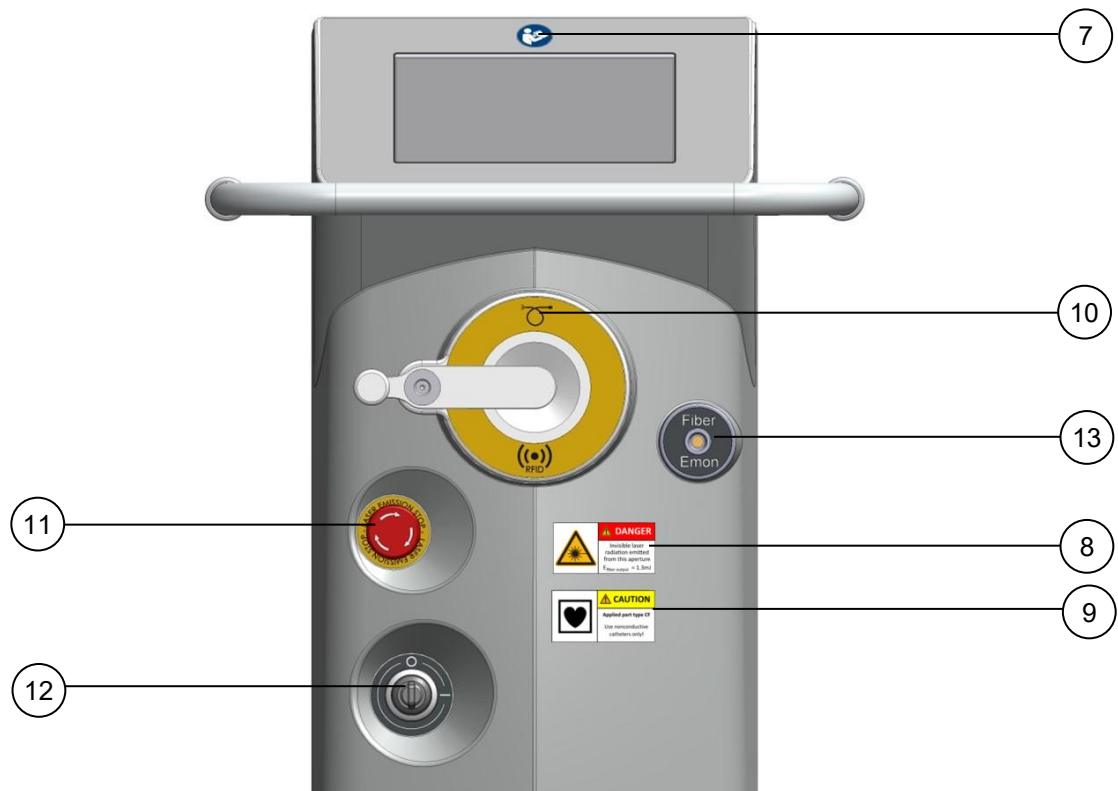

Fig. 2-2: Frontside view
7.	Follow instructions for use. The label is located on the front side of the laser above the touch panel (see Fig. 2-2).
8.	The laser warning identification sign warns about the emission of laser radiation at this position. The label is located on the front side of the laser close to the laser beam aperture (see Fig. 2-2).
9.	Defibrillation-proof type CF applied part Only fibers of type CF are allowed to be attached. Only nonconductive catheters may be used. The label can be found under the corresponding connection on the front panel (see Fig. 2-2).
10.	Connection of the fiber. The label can be found above the corresponding connection on the front panel (see Fig. 2-2).  Symbol for radio-frequency identification.  Optical fibre applicator
11.	Identification of the laser emission stop. The label is located on the front side of the laser (see Fig. 2-2).
12.	Position display for the key switch. O = "OFF" I = "ON" The label is located on the front side of the laser (see Fig. 2-2).
13.	Energy monitor for the fiber. The label is located on the front side of the laser (see Fig. 2-2).